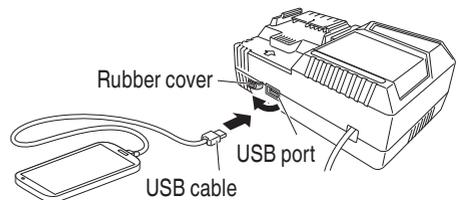

Fig. 12
- (2) Connect the USB cable. (Fig. 12)